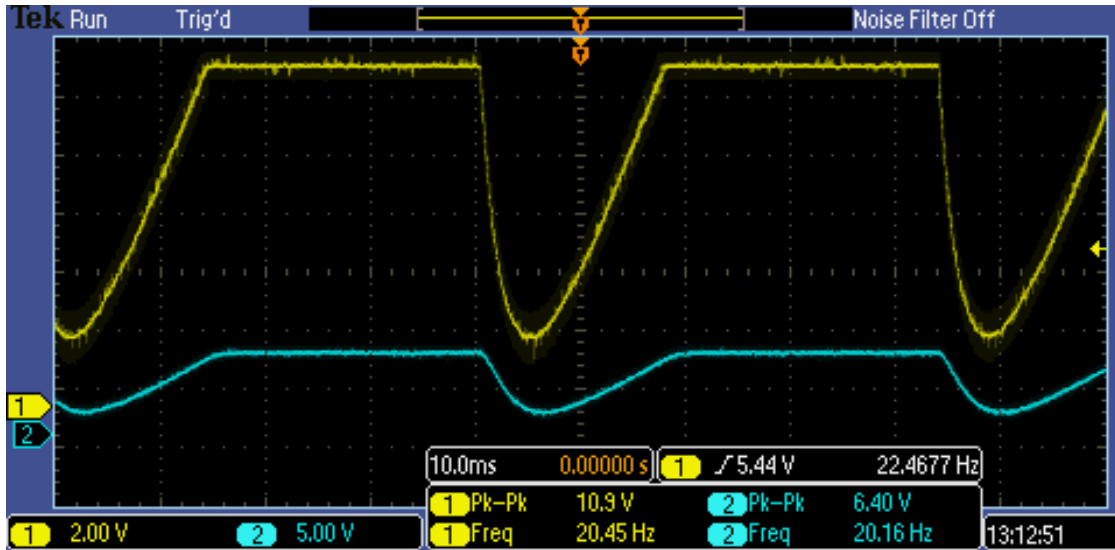

Figure 15 Incorrect Clipping Waveform due to high current to LED
20. Ideally you want amplifier stage 1 to have amplitude of 8 – 8.5Vdc and amplitude stage 2 between 4 – 4.5Vdc. If the waveform(s) are clipping adjust the LED Intensity adjustment POT down until amplifier stage 1 is 8 – 8.5Vdc. See Figure 15 for an example of an incorrect clipping waveform.